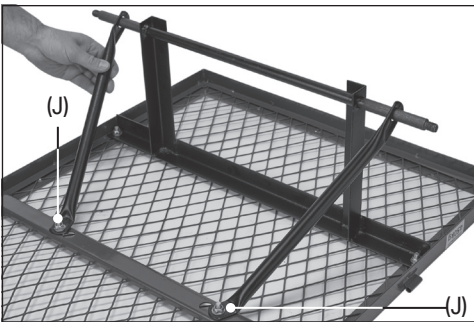

Fig. 13
3. Slide a rear strut (J) onto each axle of the rear assembly. (Fig. 13). **Important:** The struts should bend inwards towards the keyhole on the cage bed. Ensure that the correct strut is placed on the correct angle.